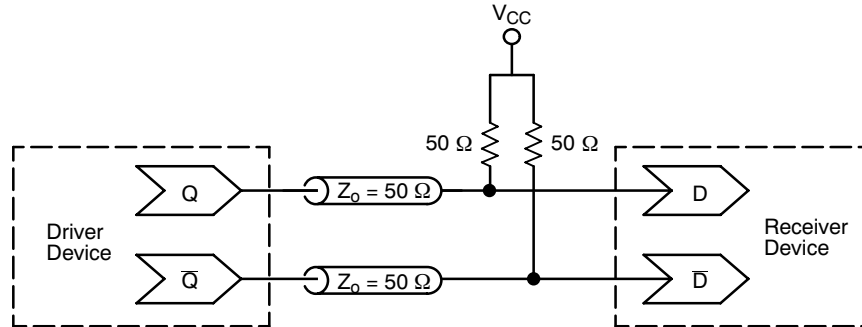

Figure 14. Typical Termination for Output Driver and Device Evaluation
- CML outputs require 50Ω receiver termination resistors to V_{CC} for proper operation. See Figure 14.